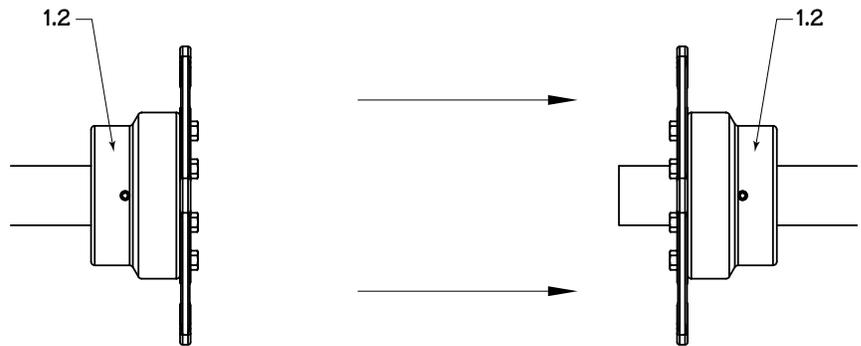

Figure 3
4. Start the driveshaft installation by sliding the couplings (hubs with attached flexible-element) onto their respective shafts. Slide them onto the shaft ends with approximately one inch of shaft protrusion through the flexible-element opening as shown in the **Figure 3**.